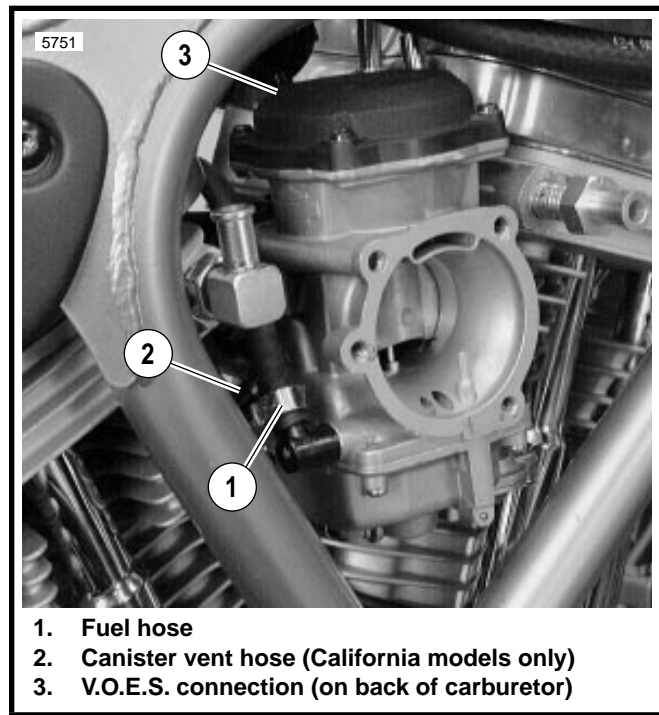

Figure 4-12. Carburetor Hoses
4. See Figure 4-12. Disconnect fuel hose from carburetor. Discard fuel hose clamp.